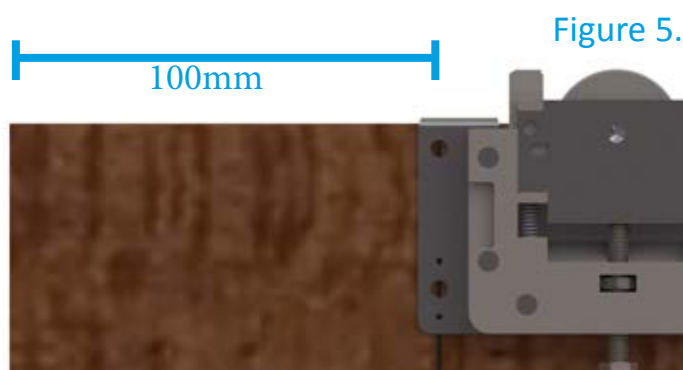

Figure 5.
3. Place the centre of the drilled hole of the upper roller on the marked out vertical line as guided in **Figure 5**.